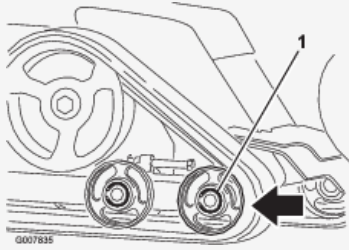

Figure 57
6. Push the front road wheel rearward as far as it can goes (Figure 57).
8. When the track is off the road wheel, remove it from the machine (Figure 57).
9. Beginning at the drive wheel, coil the new track around the wheel, ensuring that the lugs on the track fit between the spacers on the wheel (Figure 57).
10. Push the track under and between the rear and center road wheels (Figure 57).